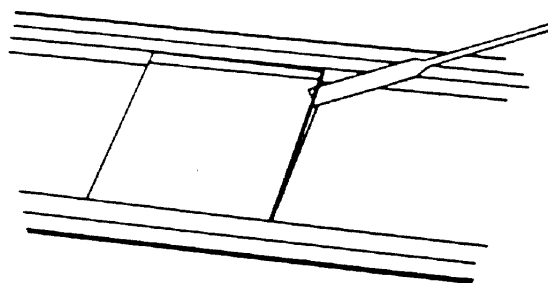

Fig. 6.1. Loosening the plate.
- a. Lift one corner with a flat spatula inserted between the gel and the casting tray (Figure 6.1).